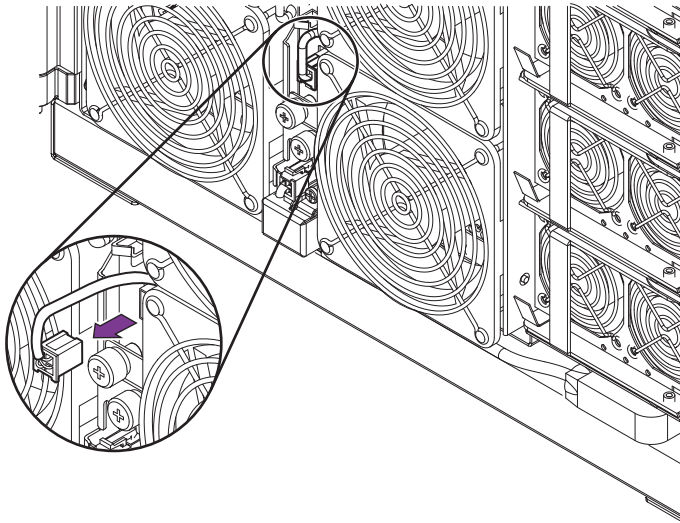

FIGURE 7-1 Disconnecting the Fan Power Connector
5. Disconnect the power connector (FIGURE 7-1).
5. Replace the power connector to the fan (FIGURE 7-1).